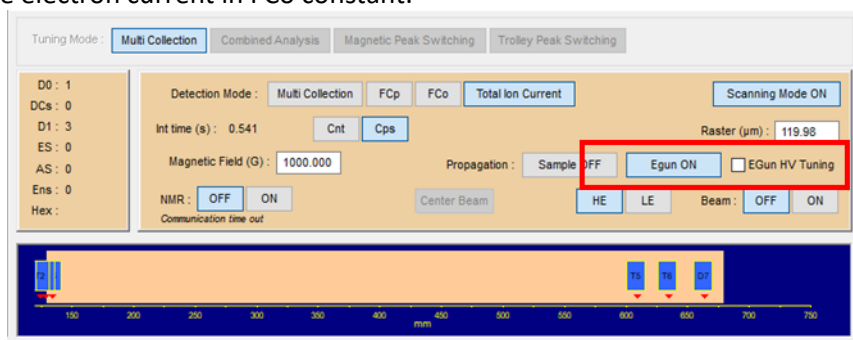

Figure 428: e-gun HV Tuning option unchecked in TUNING
- In Tuning, put the propagation of the e-gun ON, with the “HV tuning” option unchecked (Figure 428: e-gun HV Tuning option unchecked in TUNING).